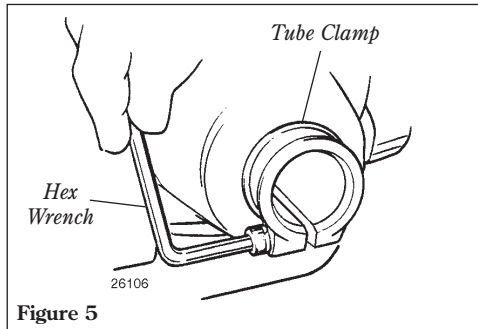

Figure 5
2. Use the 4 mm hex wrench to loosen the tube clamp screw. See Figure 5.